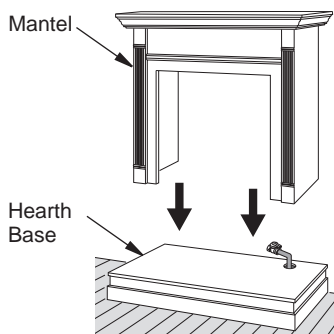

Figure 12 - Center Mantel on Hearth Base
5. Center cabinet mantel on hearth base (see Figure 12). Make sure mantel is flush against wall.